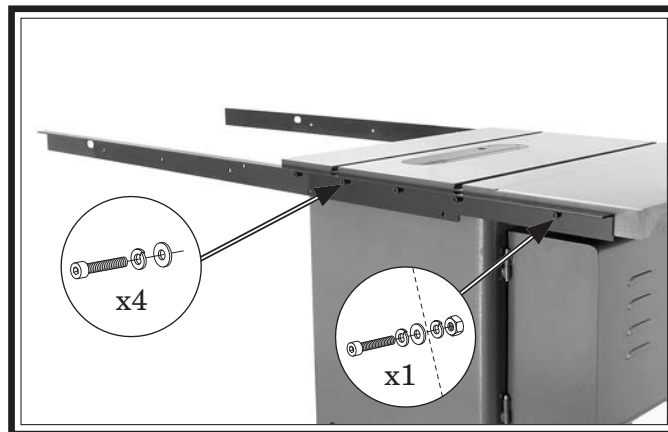

Figure 17. Rear rail installed.
3. Fasten rear rail onto main table with (4) M8-1.25 x 25 cap screws, (4) 8mm flat washers, and (4) 8mm lock washers as shown in **Figure 17**.
4. Fasten rear rail onto extension table shown in **Figure 17** with (1) M8-1.25 x 25 cap screw, (2) 8mm lock washer, (1) 8mm flat washers, and (1) M8-1.25 hex nut.